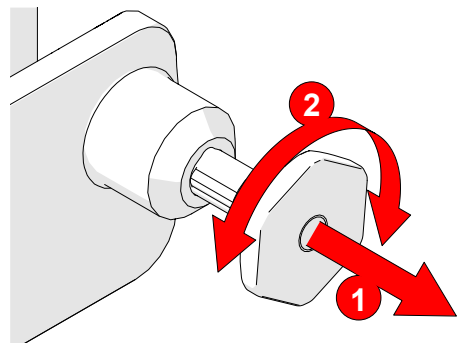

Fig. 53 - Pull latch pin and rotate
5. Pull the latch pin and slightly rotate the latch pin left or right (Fig. 53).